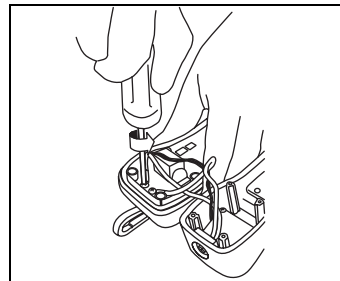

Figure 3. Removing the Line Cord Screws
- 4 Carefully separate top housing from bottom housing and lay side by side (Figure 3).
- 5 Remove the two screws that hold the line cord to PCB (Figure 3) and two washers. Discard the remaining portion of the line cord.